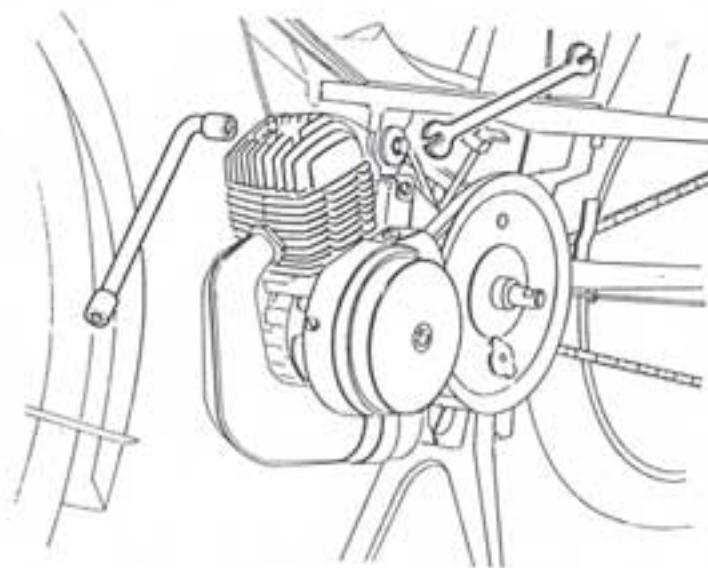

Fig. 5
- Lock the upper engine mounting nut (while holding the other end of the bolt - 12mm wrench) after having installed the belt (fig. 5).